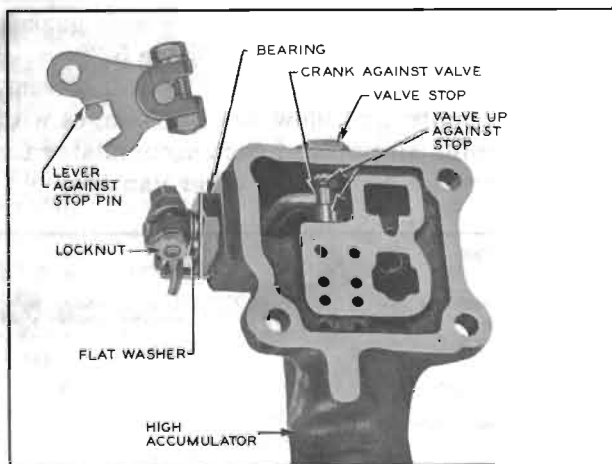

Figure 5-71—Valve Operating Lever Adjustment
12. Adjust operating lever on crank so that lever contacts its stop and the crank contacts the valve with valve in extreme upper position, then tighten the clamp bolt. See figure 5-71.